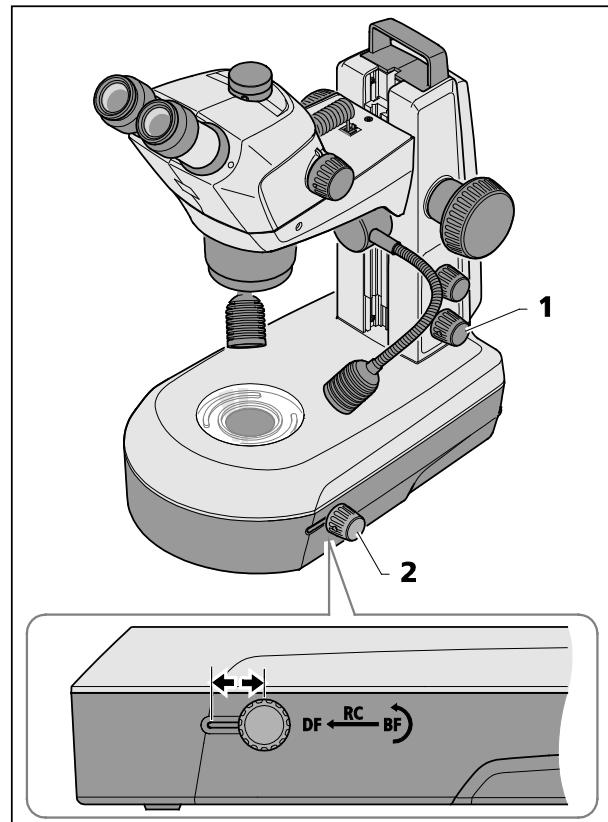

Fig. 26 Transmitted-light unit in stand K LAB
- Switch transmitted-light illumination ON by pressing the lower knob (Fig. 26/1).
- Adjust the bright field (BF) by pushing the sliding knob (Fig. 26/2) into its rear position (BF).
- Turn the sliding knob (Fig. 26/2) to swing the clear or diffuse mirror into position or to adjust the inclination angle.
- Change over to dark field illumination (DF) by pushing the sliding knob (Fig. 26/2) into its front position.
By pushing the sliding knob (Fig. 26/2) into a central position and by tilting the mirror, oblique light effects (RC) are created which are very well suited to display non-coloured specimens.